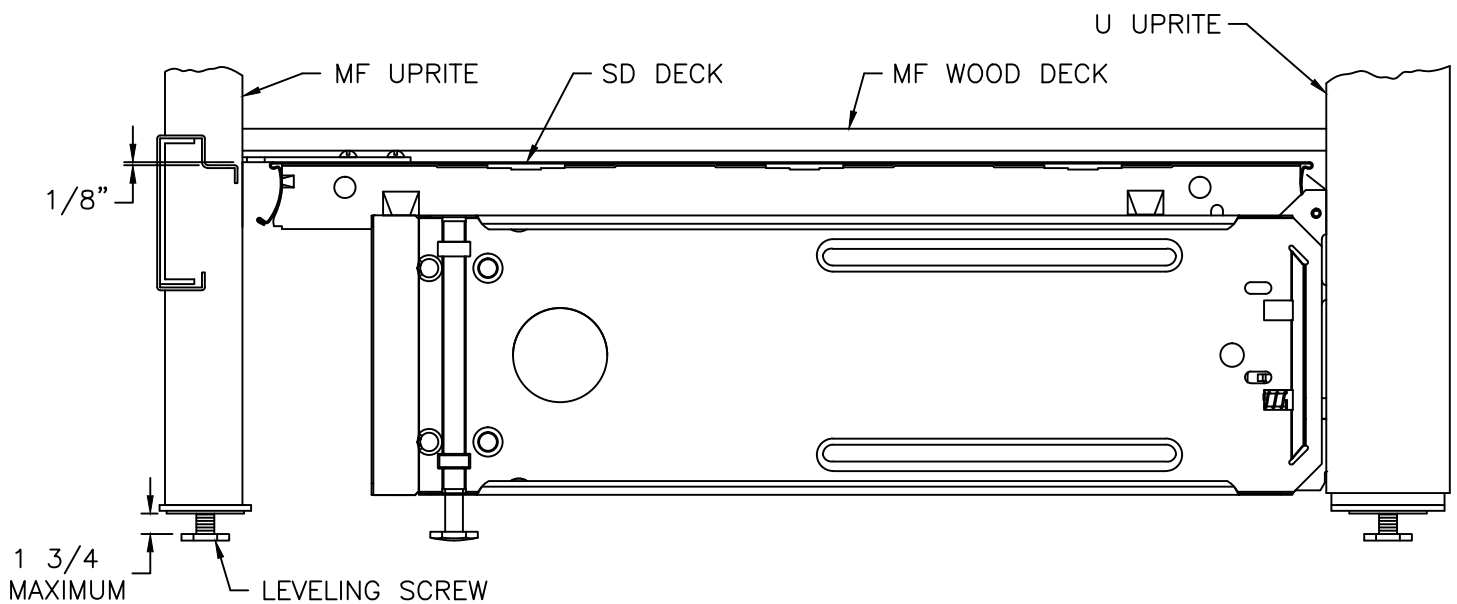

FIGURE 7
STEP 5: If Multi-Function Wood Decks (MFD) are to be used, install a MF Front Beam (MFFB) $1/8$ " lower than the level of the SD Deck (SEE FIGURE 7).